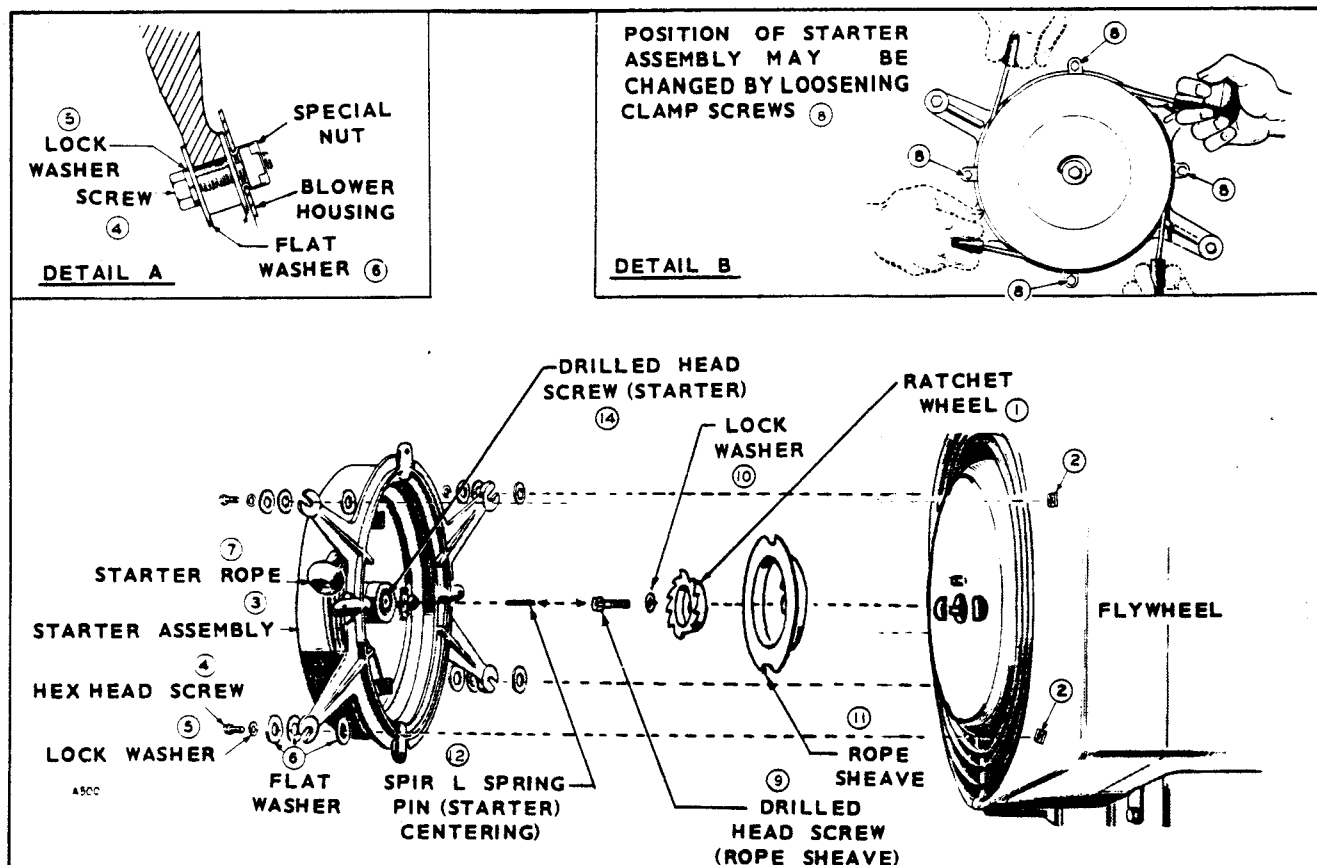

Figure 34. Installing Starter Kit (Spec D and Later)
**Units Beginning Spec. D:** See that the engine blower housing is in good condition. If the mounting holes are worn or if the blower housing is otherwise damaged, replace it with a new one. Refer to Figure 34.
1. Install the new ratchet wheel (1) against rope sheave (11) using lock washer (10) and flywheel mounting screw (9). Discard the large flat washer from engines so equipped. Engage drive hole with flywheel boss.
3. Install centering pin (12) in starter center screw (14) allowing 3/8" to protrude. For re-installation adjust pin depth.
5. The direction of pull on the starter rope is adjustable to fit the requirements of the individual installation. See detail B. To change the direction of pull, loosen the four clamp screws (8) and turn the starter in its mounting ring to the desired position. Tighten the four clamp screws securely. Try the starter several times, making sure the pull rope does not rub against the clamping screws.